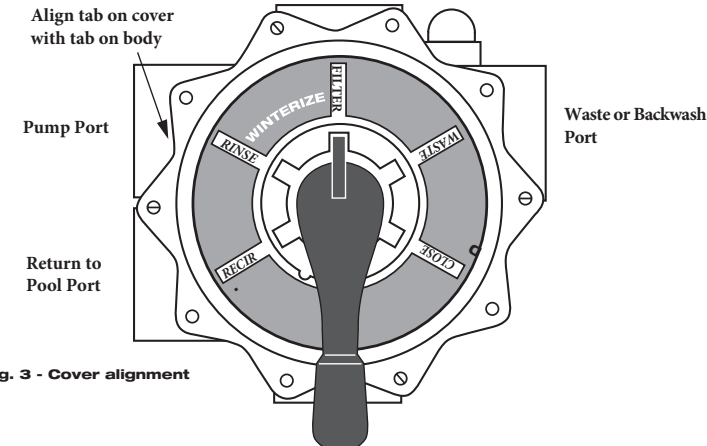

Fig. 3 - Cover alignment
8. Remove fixture, align cover pin (see fig.3) and reinstall cover and diverter. Tighten all bolts securely.
4. Align tabs (see fig. 3) and install new cover and diverter. Press down on cover to allow bolts to engage nuts; tighten each bolt securely.
10. Align tabs (see fig 3.). Press down on cover or set handle to 'Winterize' to allow bolts to engage nuts. Tighten each bolt securely.
8. Align the tab on the cover assembly with the tab on the valve body (see fig. 3) and insert the cover assembly into the body, fastening with the bolts and nuts removed in step 3. Tighten all bolts securely.